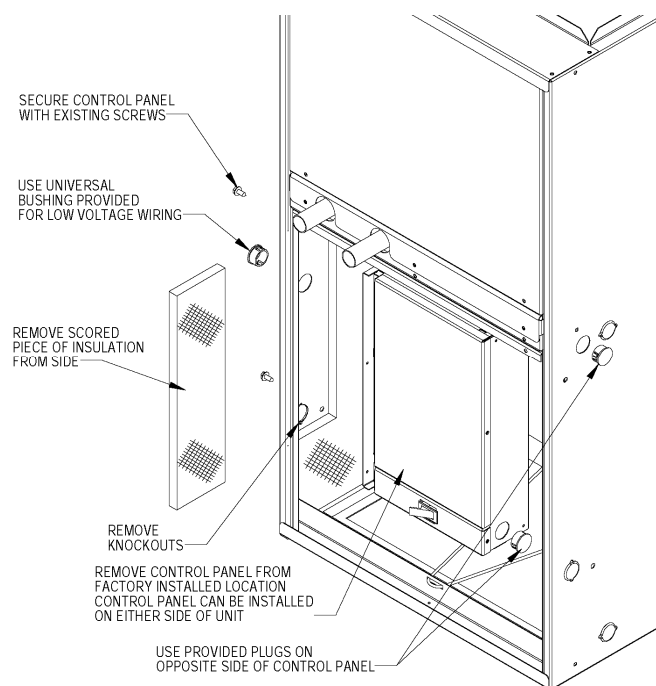

Figure 12: Control Box Relocation
The Control Box is factory installed in the blower compartment upper left corner (see Figure 12); if factory location of Control Box is suitable, proceed to next section. To relocate the Control Box to an alternate location (blower compartment upper right
2. Remove and keep two screws holding Control Box to casing of 37AHB unit (See Fig. 12.).